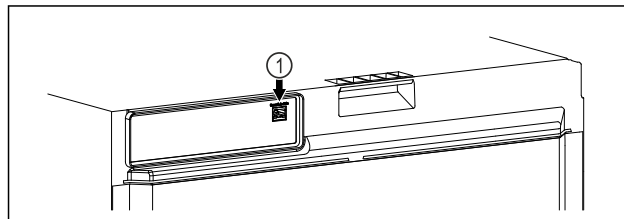

Fig. 119
- SmartModule Fig. 119 (1) is inserted.